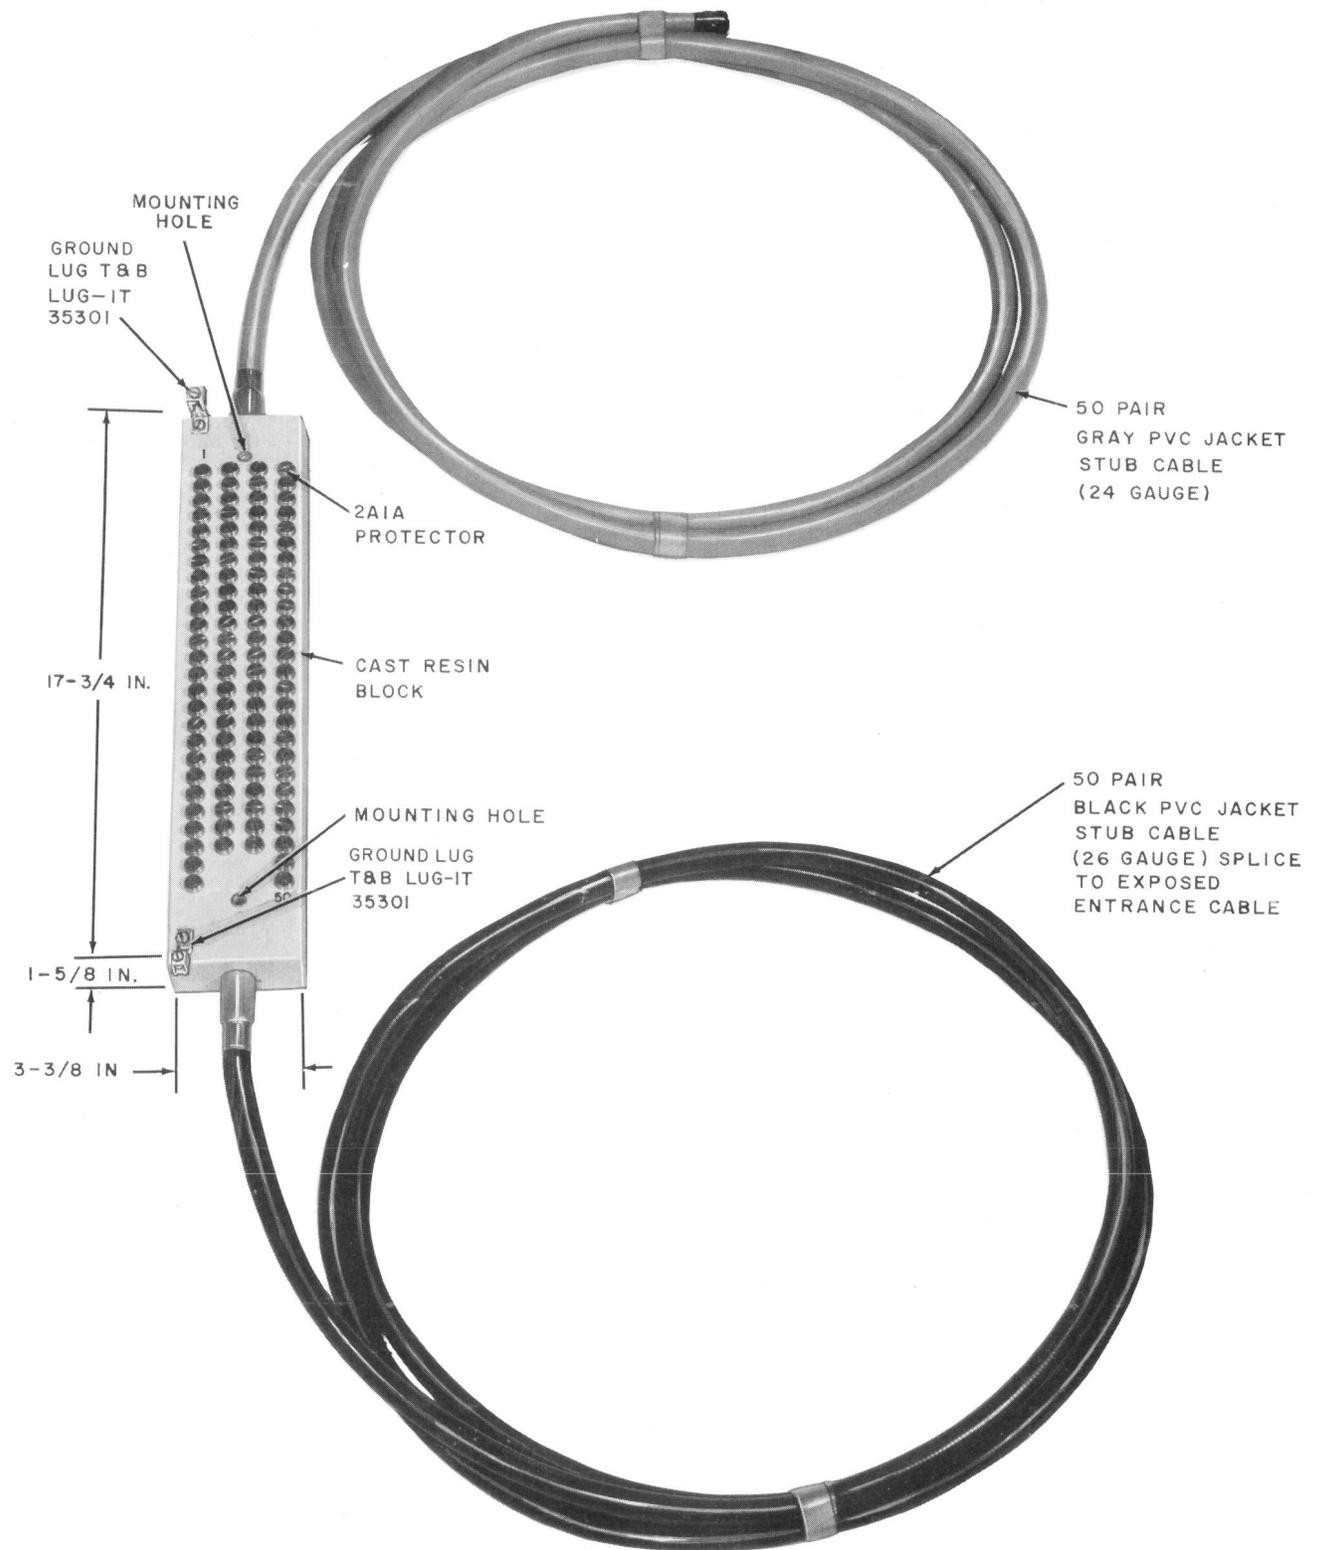

Fig. 1—134A1A-50 Protector
3.01 Terminal arrangements using the 134-type protectors are illustrated in Fig. 1 through 8.